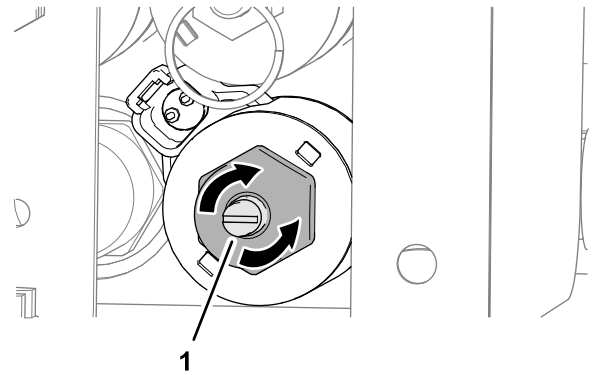

Figure 33
- Rotate the hex-head screw for the valve override clockwise to increase the floor speed (Figure 33).